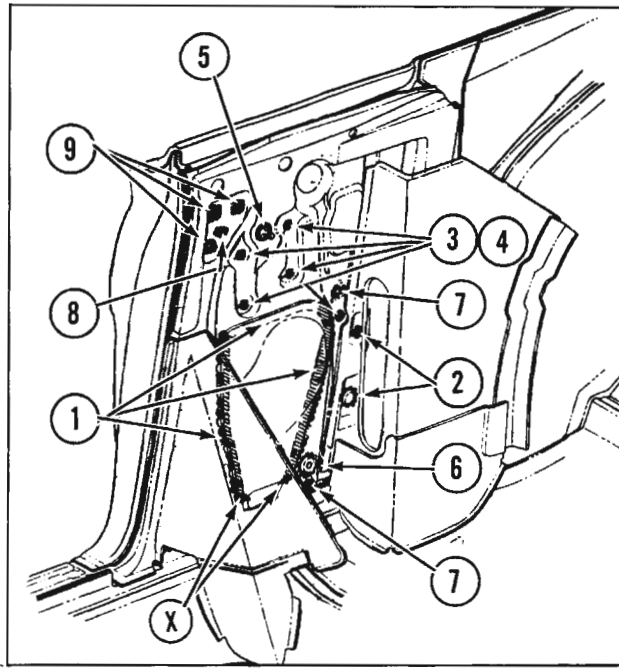

Fig. 16-70 Inner Panel Sealing ("67" Styles)
- (67 styles - Figure 16-70)
Item 9 for "67" styles only. (Fig. 16-70)